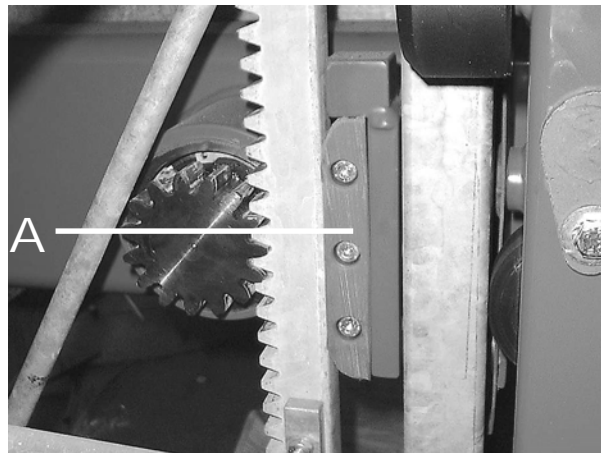

Fig. 9-01 Guide blocks, left-hand side
- Check the condition of the guide blocks to the left and to the right (fig.9-01, A) and lubricate the blocks.